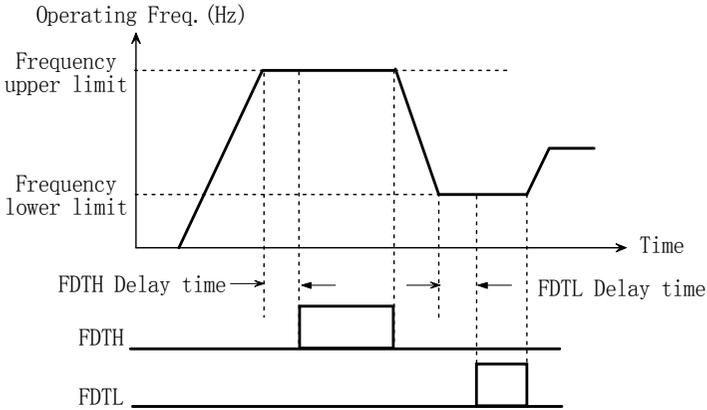

Fig. 5-3-10 FDTH/FDTL diagram
- ◆ Usually, this Function is valid to avoid load wobbling and signal instability when several motors switch between commercial frequency and conversion frequency, as shown in Fig. 5-3-10.